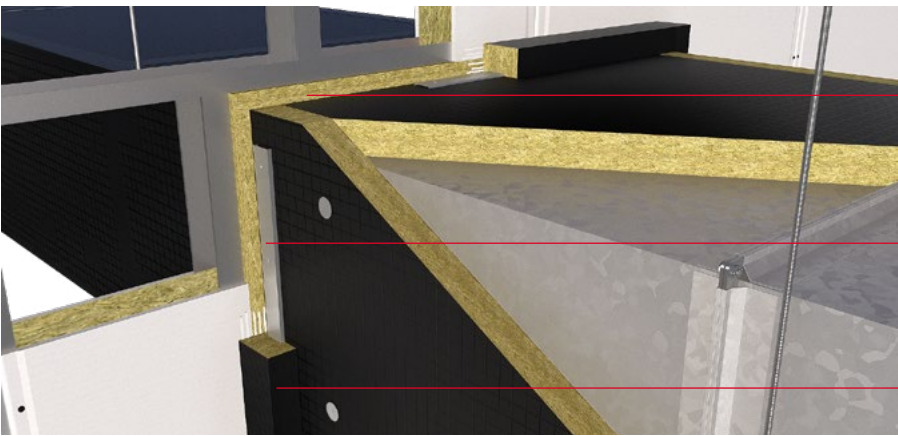

Figure 9
- 2. Fill the remaining annular space between the DuctRock Slab and supporting structure of the dry wall system with ROCKWOOL RWA45 as shown in Figure 9.
- 5. Once the u-profiles have been applied an insulated collar must be installed around the perimeter of the aperture. The collar can be simply cut from the DuctRock Slab. Fix the collars in place with FirePro Glue as shown in Figure 9. Use nails to temporarily hold the collars in place whilst the glue cures.